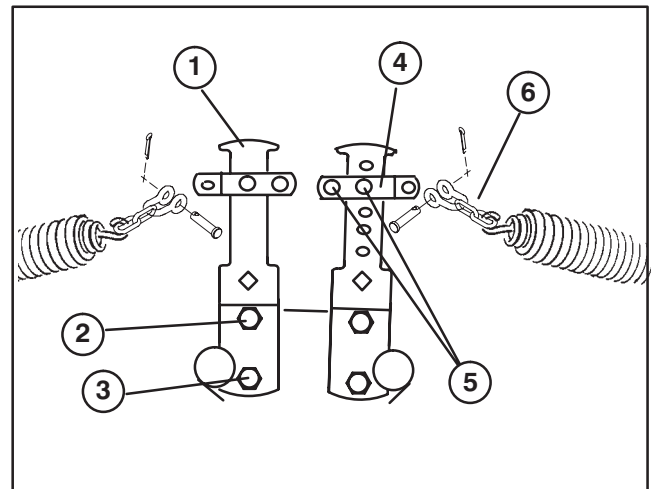

Figure 16
4. Secure other end of spring to appropriate hole (see below) on front and rear counterbalance arms (Fig. 16 & 17) with spring shackle with chain, clevis, clevis pin and cotter pin.
5. Secure other end of spring to second hole from top with spring shackle with chain, clevis, clevis pin and cotter pin (Fig. 16).